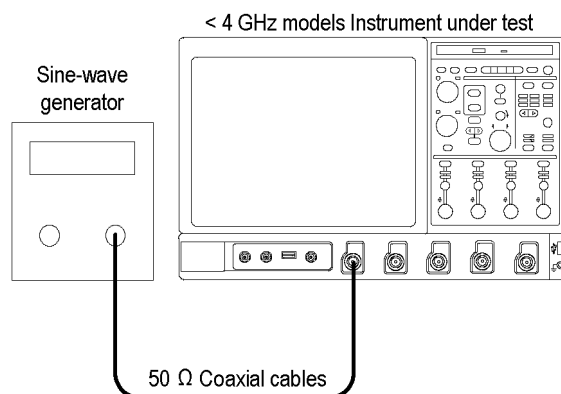

Figure 44: Serial trigger clock recovery range test hookup, <4 GHz Models
- a. *Hook up test-signal source 1:* (See Figure 44: Serial trigger clock recovery range test hookup, <4 GHz Models on page 278.)